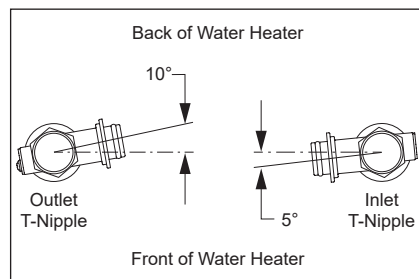

Figure 126 - Inlet and Outlet T-Nipple Orientation
IMPORTANT: Before removing the inlet and outlet t-nipples, observe the rotational orientation of the valves. Figure 126 below provides the factory installed offset between the t-nipples. T-nipples **MUST** be installed to the factory offset orientation to properly accommodate the Smart Valve and hose assembly. Failure to do so may result in leaks and potential property damage.
Hand tighten the outlet t-nipple to the tank nipple. Use a basin wrench to engage the hexagonal flats located at the top of the outlet t-nipple and tighten such that its orientation is angled 10° toward the back of the water heater as shown in Figure 126.
- 24** Repeat the procedure as outlined in **Step 23** to install the inlet t-nipple. Tighten inlet t-nipple such that its orientation is angled 5° toward the front of the water heater as shown in Figure 126.